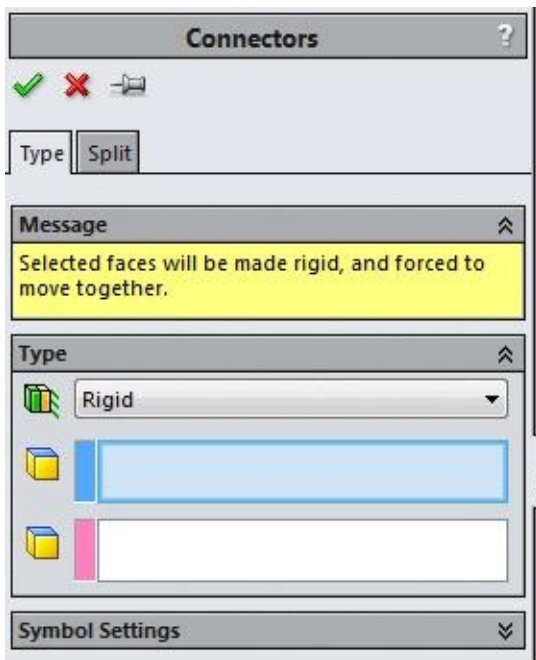

Figure-81. Connectors PropertyManager with rigid option
- Click on the **Rigid Connection** button from the **Connections Advisor** drop-down. The **Connectors PropertyManager** will be displayed as shown in Figure-81.